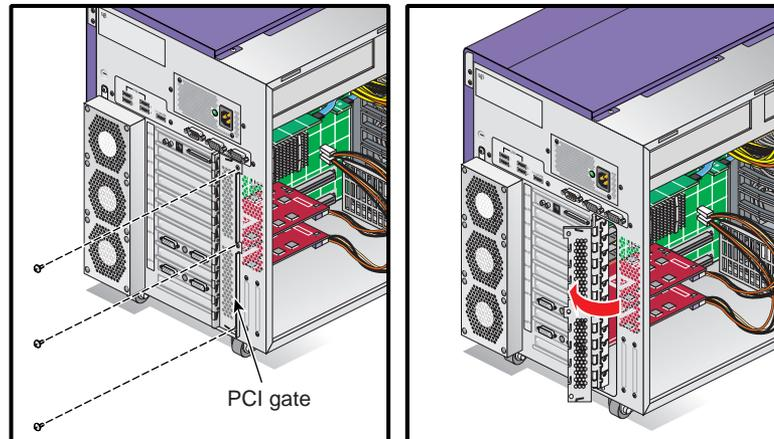

Figure 3-23 Opening the PCI Gate
1. Remove the three screws that secure the PCI gate to the enclosure; then open the PCI gate (see Figure 3-23).